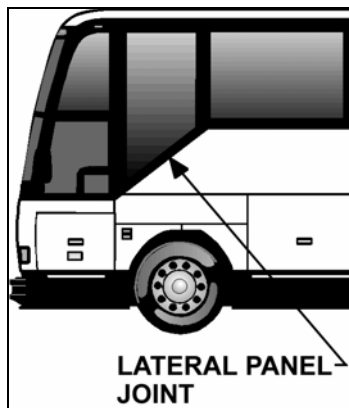

FIGURE 2: WINDOW JOINT
3. Open trapezoidal window and hold it open using a piece of wood or other appropriate device (refer to fig. 2).